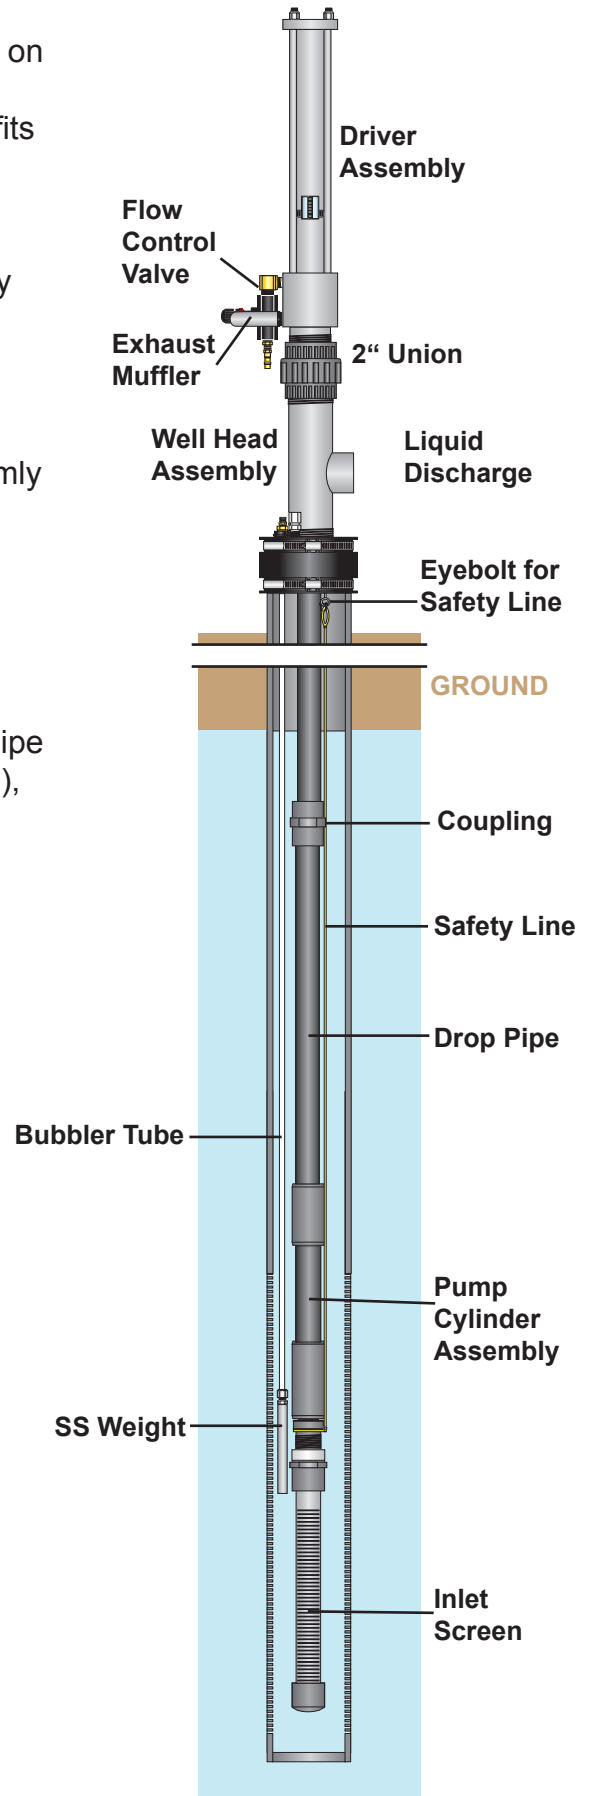
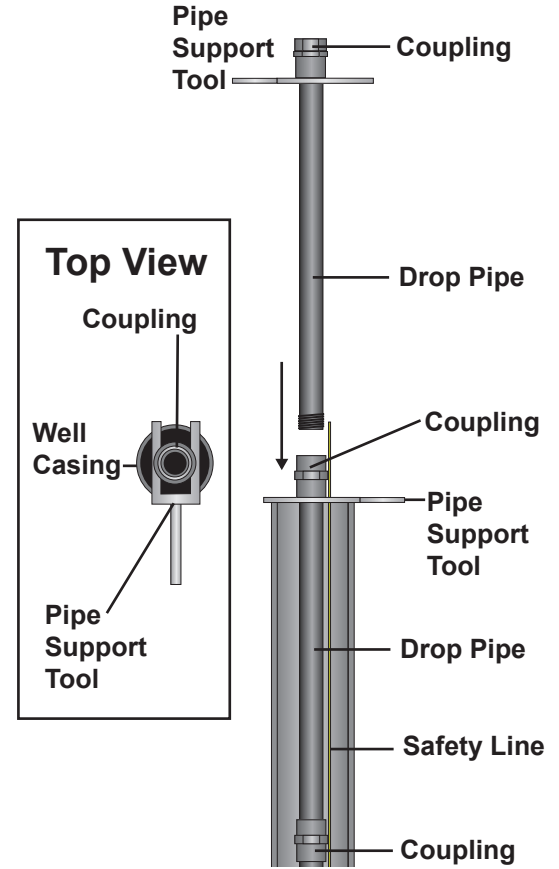

Figure 9
Figure 10
6. Screw top of pump cylinder assembly into bottom of first drop pipe section (**Figure 9**), using Teflon tape. Tighten firmly with pipe wrenches.
9. Suspend the first drop pipe and pump cylinder assembly in the well, placing the screen end in first. Use the pipe support tool to suspend the pipe across the top of the well casing. The coupling will act as a stop to prevent the pipe from sliding through the pipe support tool (**Figure 10**).
10. Add a pipe coupling to a new section of drop pipe, using Teflon tape, and tighten with pipe wrenches. Screw the end of the pipe without the coupling into the top of the coupling that is being supported by the pipe support tool at the top of the well casing (**Figure 10**). Insert a second pipe support tool above this pipe coupling so that there are pipe support tools both above and below this pipe coupling. Raise the section of drop pipe just enough so that the pipe coupling is not resting on the lower pipe support tool. Remove the lower pipe support tool and lower the new section of drop pipe until the new pipe coupling is resting on the other pipe support tool. Using the same procedure, continue adding drop pipe sections and threaded pipe couplings until pump inlet is approximately at the desired depth (**Figure 9**). While lowering pipe sections, keep the safety line tight and feed it out as the riser pipe assembly gets lower in the well.
12. Attach safety line to eyebolt on bottom of well cap (**Figure 9**) using the supplied shackle.
1. If the fluid discharged from the pump during startup must be captured, attach a temporary hose to the liquid discharge barb on the well head assembly. Close the flow control valve (**Figure 9**) by turning the black knob clockwise. If the knob is locked, pull the red lock ring out, away from the valve body, to unlock. Open the air inlet ball valve on the level controller. Set the pressure regulator on the level controller at approximately 100 psi by adjusting the black knob. Direct the hose to a barrel or other suitable container.
2. Start the pump at a low rate of flow (5-20 cycles per minute) by slowly opening (counterclockwise) the flow control valve (see **Figure 9, Page 8**). Turning the knob counterclockwise increases the pump cycling rate.